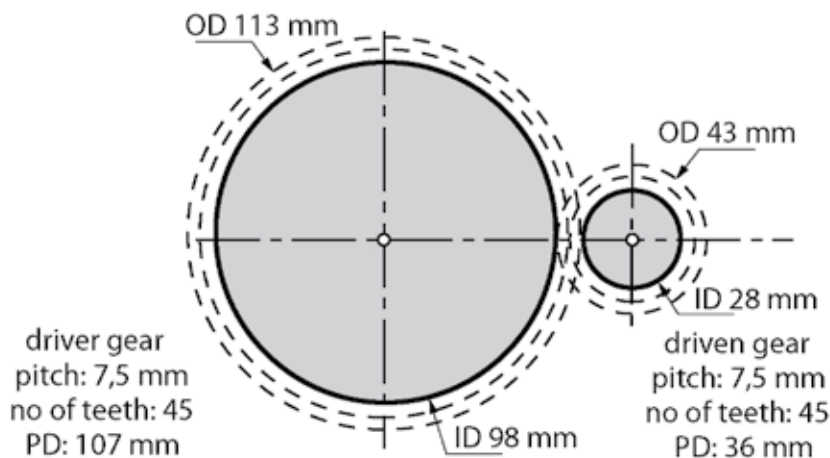
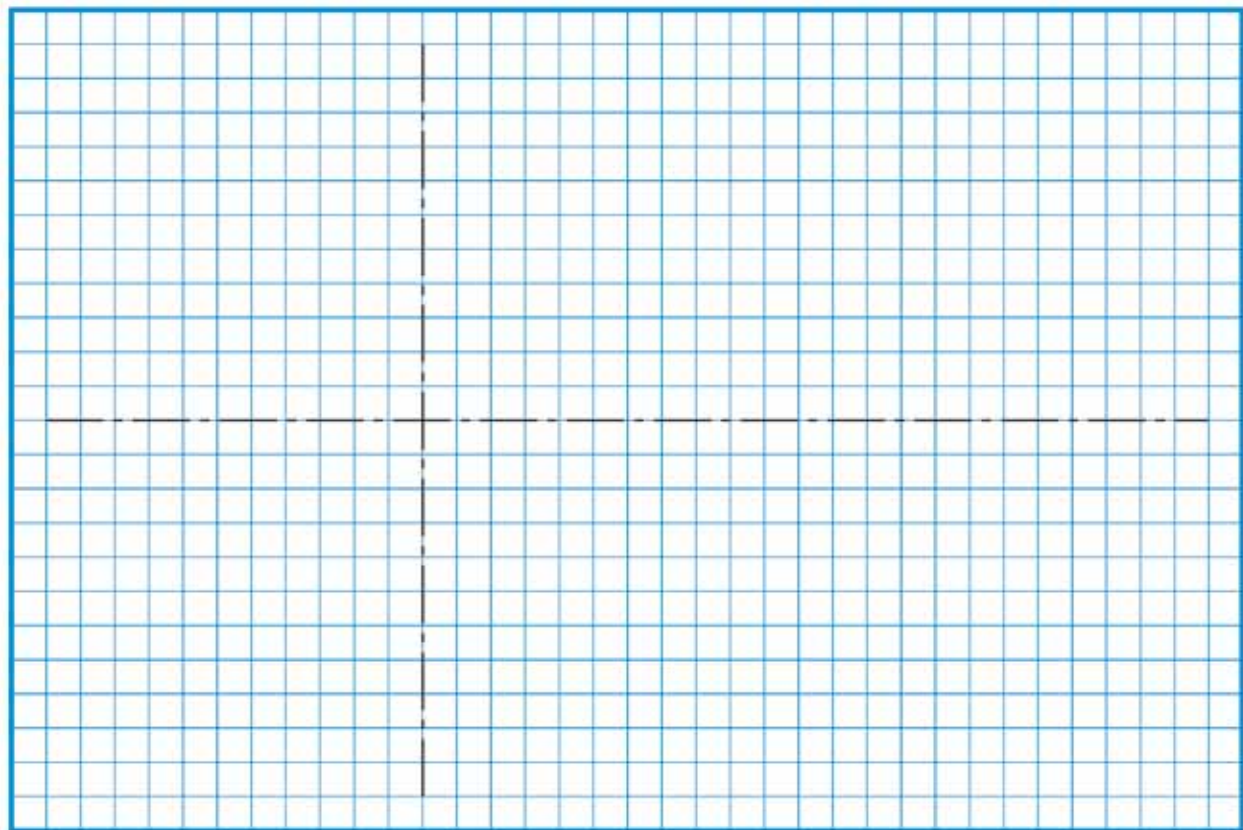

Figure 11
Figure 12: Draw your gear system on this grid paper.
1. Draw the gear system shown in Figure 11. The driver gear has 45 teeth and a pitch circle diameter of 107 mm. The driven gear has 15 teeth and a pitch circle diameter of 36 mm. Use the grid paper in Figure 12.